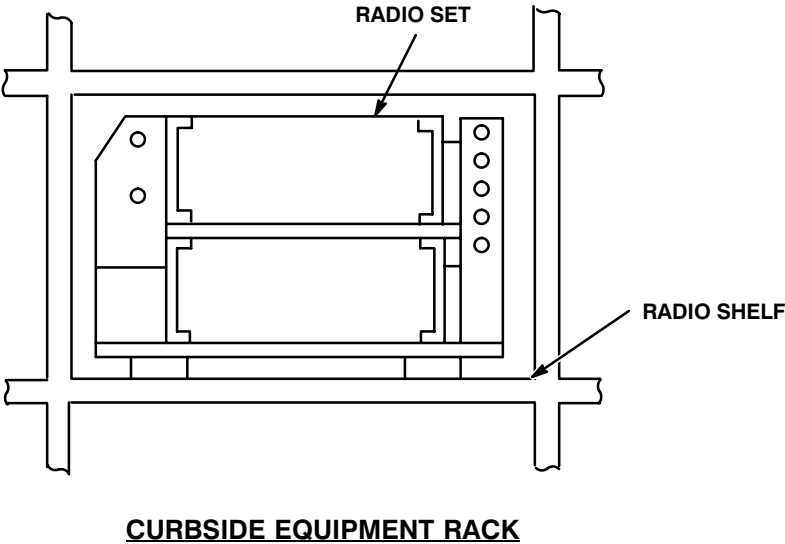

Figure 5-1 (2). MK and Radio Installation: Radio Equipment Locations
5.1 Installation of Antenna AS-3900/VRC (antenna). See figures 5-1 (1) for location(s).